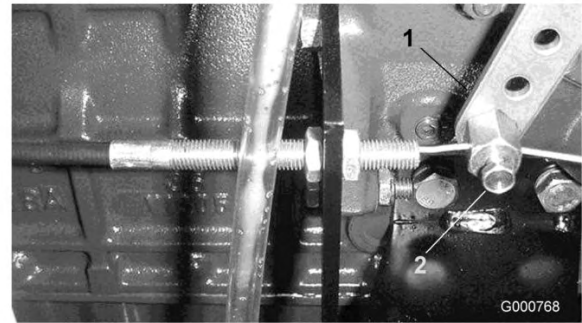

Figure 58
2. Loosen the throttle cable connector on the lever arm at the injection pump (Figure 58).